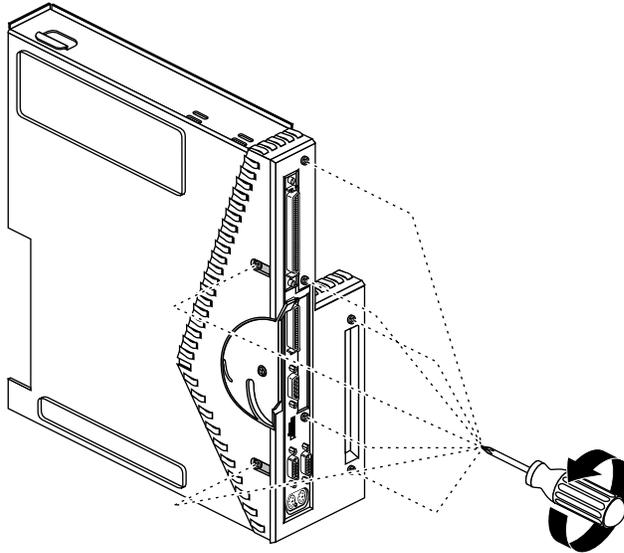

Figure 1-9 Removing the Screws From the Face Plate
- Use the Phillips screwdriver to remove five screws from the rear and two screws from the underside of the system module (Figure 1-9).